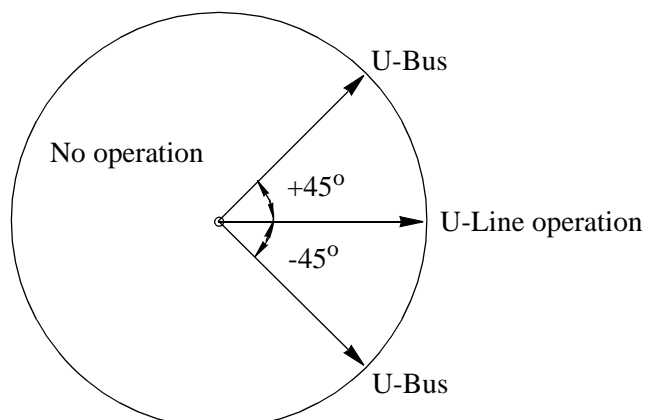

Figure 13: Test of phase difference.
- 3 The test can be repeated with other PhaseDiff values to verify that the function operates for values lower than the set ones. By changing the phase angle on U1 connected to U-bus, between +/- 45°. The user can check that the two outputs are activated for a PhaseDiff lower than 45°. It should not operate for other values. See Figure 13:.